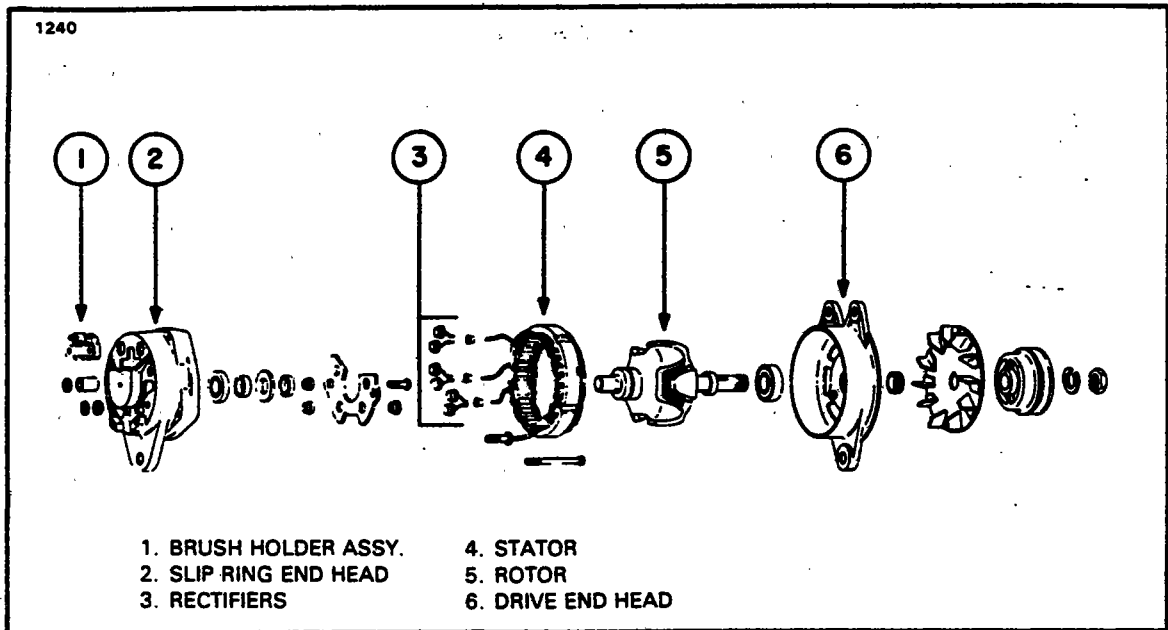

Figure 11-71. Exploded View of Alternator
**11-120. DESCRIPTION OF ALTERNATOR.** (Refer to Figure 11-71.)